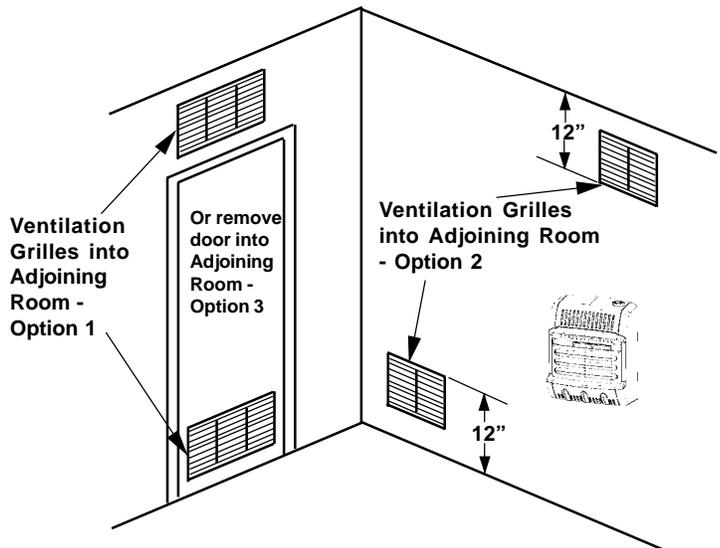

Figure 2
- A. Rework worksheet, and the space of an adjoining room. If the extra space provides an unconfined space, remove door to adjoining room or add ventilation grilles between the rooms. See Ventilation Air From Inside Building (Fig. 2)
This fresh air would come from an adjoining unconfined space. When ventilation to an adjoining unconfined space, you must provide two permanent openings: one within 12" of the ceiling and one within 12" of the floor on the wall connecting the two spaces (see options 1 & 2 of fig. 2). You can also remove door into adjoining room (see option 3, fig 2). Follow the National Fuel Gas Code NFPA 54/ ANSI Z223.1, Section 5.3, Air for Combustion and Ventilation for required size of ventilation grilles or ducts.